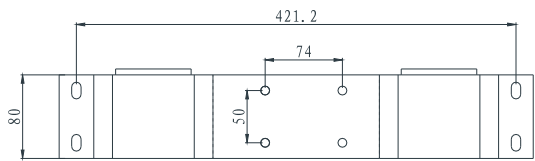

Figure 3.1
1) The size of the wall panel mounted on the wall, in mm.(See Figure 3.1)